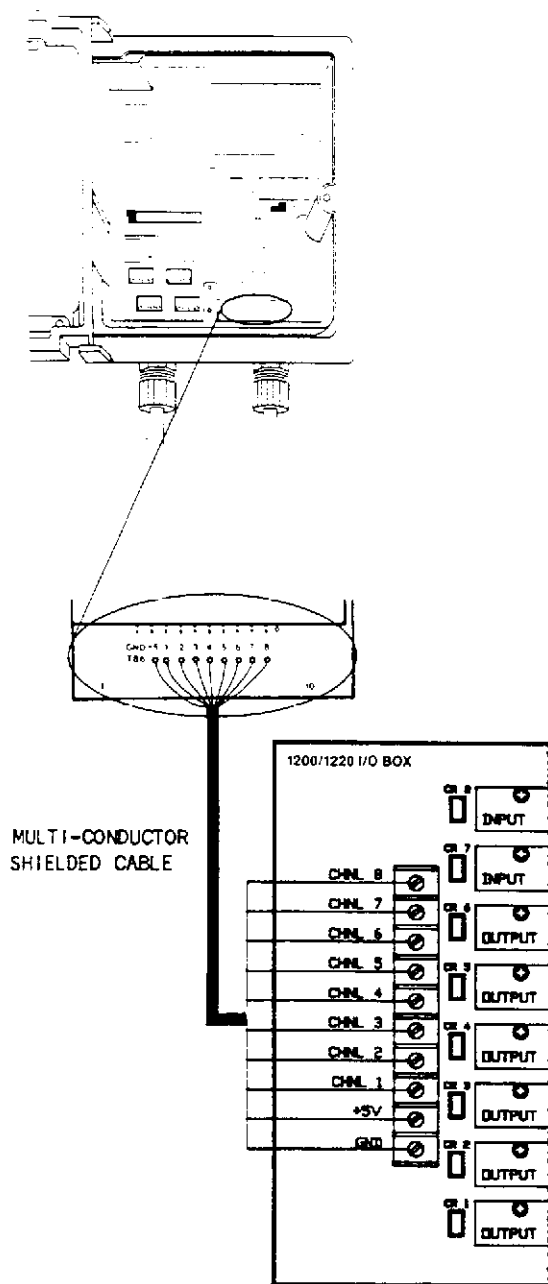

Figure 11. Wiring Batch Controller and Feed Controls to I/O Box
- 1 Begin by connecting the multi-conductor, shielded interconnect cable from the Batch Controller to the I/O Box. Match and connect GROUND, +5, and pins 1 - 8 (Figure 11).
- 4 With appropriate fittings for the conduit (if used), route the cable into the I/O enclosure (Figure 11). Use watertight conduit where required.
- 5 Connect feed control cable wires to the relay terminals located in the I/O box (Figure 11).